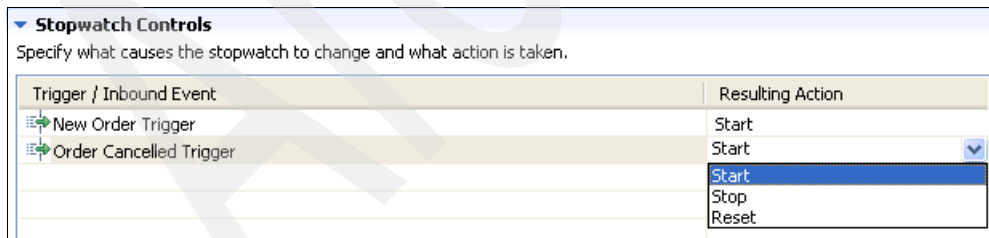

Figure 5-37 Stopwatch Resulting Action Selection
- e. In the Resulting Action column, change the default setting of *Start* to **Stop** for this trigger. Click the second row in the Resulting Action column (Figure 5-37) and select **Stop** from the list.